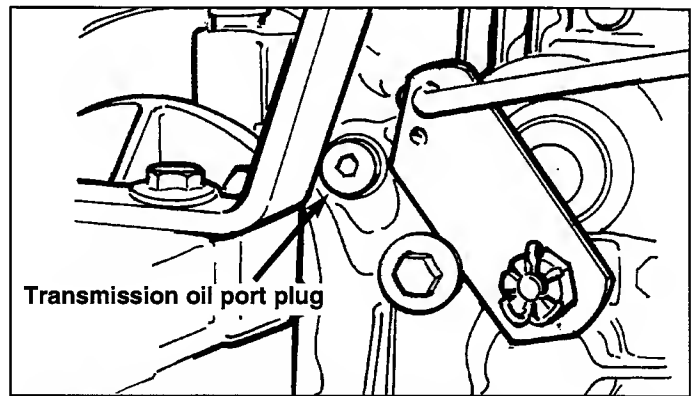
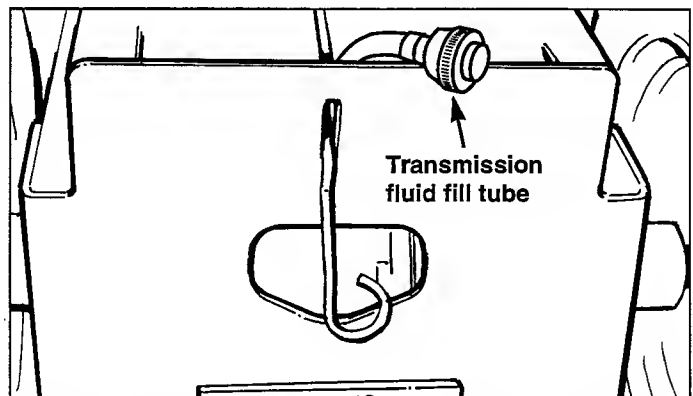

Figure 26. Transmission Oil Port Plug
Figure 27. Transmission Fluid Fill Tube Located at Rear of Tractor
Transmission fluid should be checked with the engine off. Remove plug (Figure 26). Fluid level should be to the bottom of the hole. If fluid level is low, add fluid (10W 40 oil) to the fill tube (Figure 27) until proper level is reached, then reinstall drain plug.
2. Remove oil port plug (Figure 26).
3. Add 10W 40 oil (76 oz.) to the transmission fluid fill tube (Figure 27) until oil just starts to run out of the oil port (Figure 26). Reinstall oil port plug.